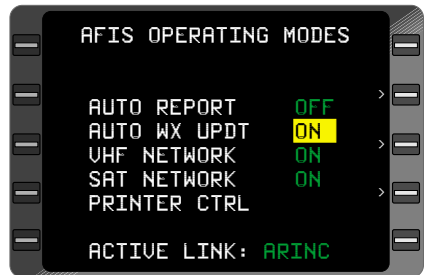

Figure 7-90
5. **BACK** Key - DEPRESS. **ON** appears in the cursor. (Figure 7-90)